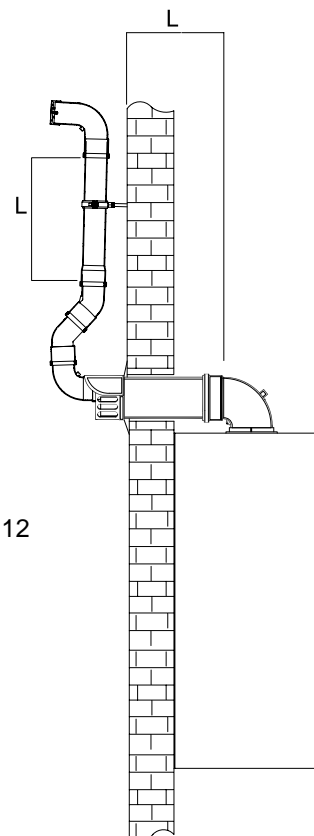

Fig. 12
This appliance will produce a plume of condensation in cool weather. This is due to the High Efficiency and hence low flue gas temperature of the boiler. A plume management kit is available. (see section 5.6 fig 12)
5.6 PLUME MANAGEMENT KIT (Fig 12)
TER110101 (Fig. 12)	1 metre high plume kit containing: n. 1 terminal bend n. 1 90° elbow bend n. 2 45° bend n. 1 metre 60 M-F flue length n. 1 flue length bracket